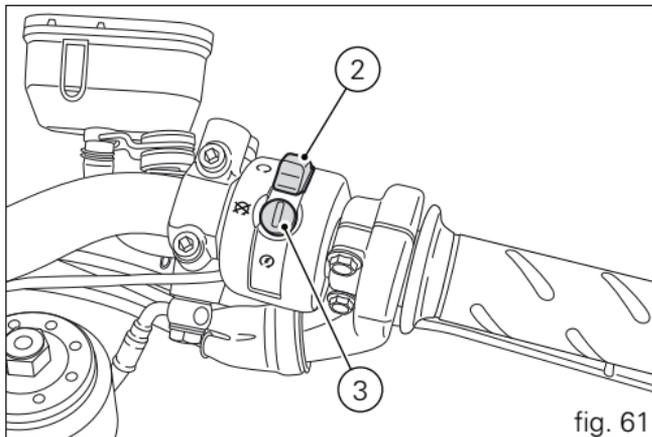

fig. 61
- 2) Check that the stop switch (2, fig. 61) is positioned to  (RUN), then press the starter button (3, fig. 61).